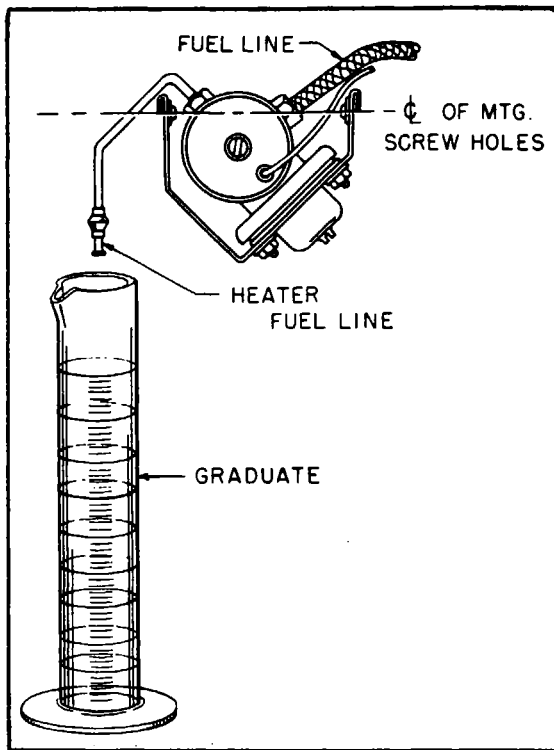

Figure 13-20. Fuel Flow Test Set Up
- d. A glass graduate of the type shown in Figure 13-20 is required for testing the fuel control valve, unless a flow meter is available in the fuel supply line.
- b. Install the short heater fuel line (Refer to Figure 13-15, Ref. 17.) in the fuel control valve outlet, in its normal position. Support the valve in its normal mounting position (Refer to Figure 13-20) so that fuel from the fuel line will drip into a glass graduate.
13-84. FUEL CONTROL VALVE FLOW TEST. Check fuel flow through the valve, as follows, using the test set up illustrated in Figure 13-20: